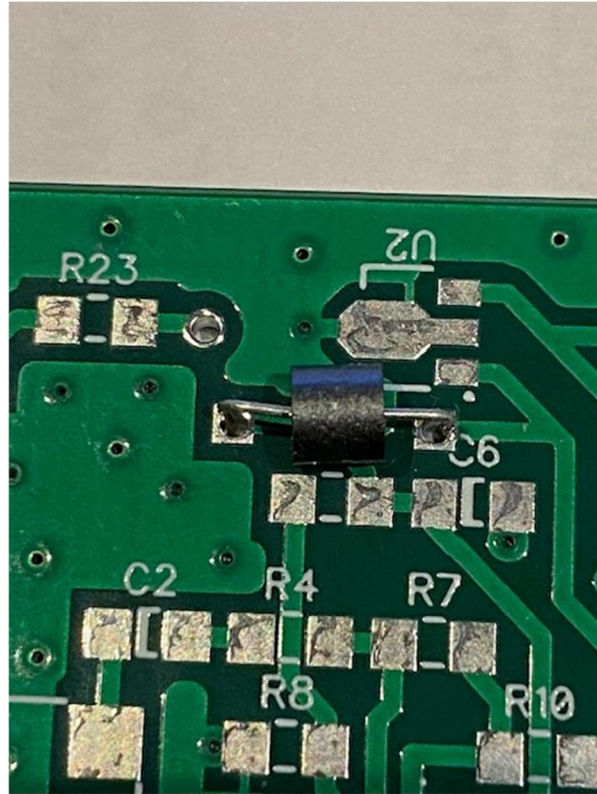

Figure 6. Placement Of L1 – FT43-101 Bead.
6. Install L1 on the board; L1 is formed from placing the FT43-101 bead onto a lead cut off from a $\frac{1}{4}$ or $\frac{1}{2}$ watt leaded resistor. The spot is not marked so use the photo below for placement. See Figure 6 for the proper location.